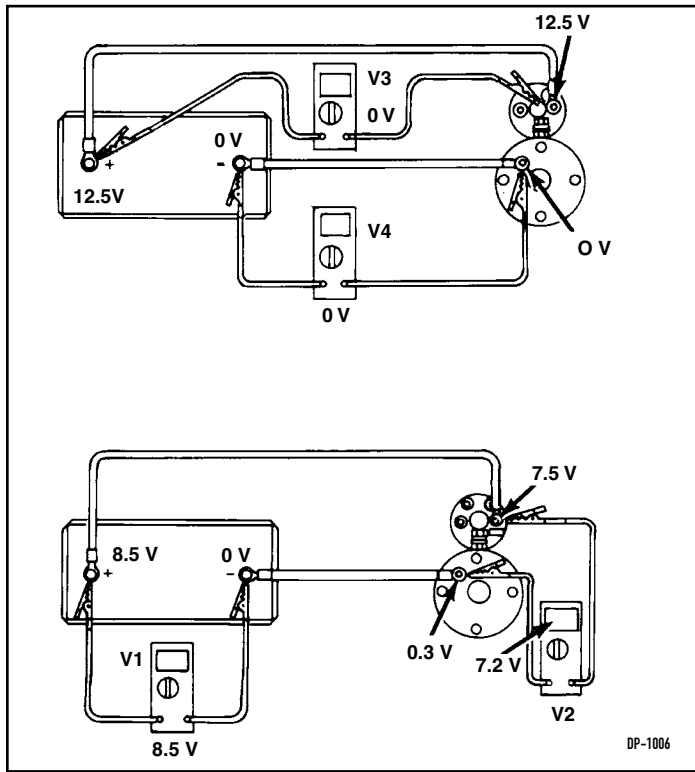

FIGURE 1-1. Voltmeter Readings with No Current Flow
1. Figure 1-1 shows the voltmeter being used with no current flow or with the starter not operating.